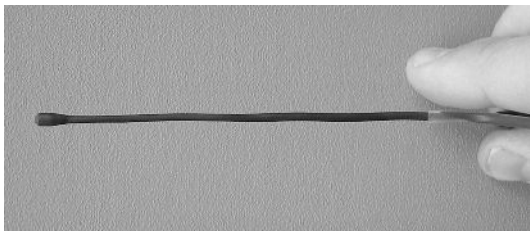

Figure 3
1. Shape the boom: Figure 3 shows the microphone boom as received. Before placing the microphone over the user's ear, apply a slight bend to the boom, starting at the middle of the earhook, to aid the microphone boom in forming to the user's face.